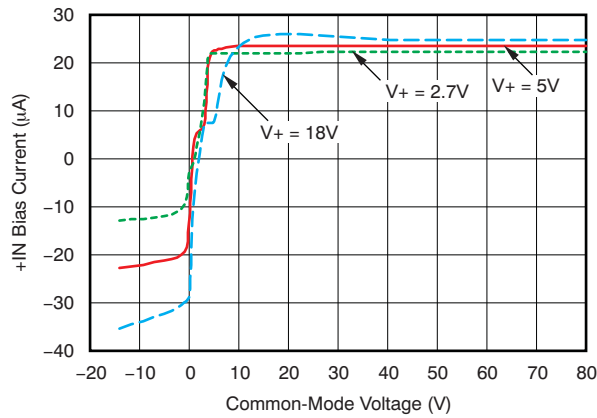

Figure 7. INA283 +IN Bias Current vs Common-Mode Voltage
(1) RTI = referred-to-input.
(2) See typical characteristic graph Figure 7.
(3) The average of the voltage on pins REF1 and REF2 must be between  $V_{GND}$  and the lesser of ( $V_{GND} + 9\text{ V}$ ) and  $V_+$ .